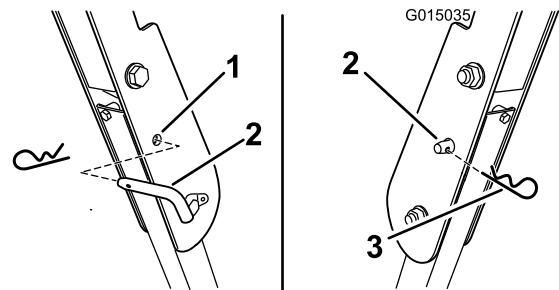

Figure 11
3. Install the locking pins. Secure the pins by installing the hair cotter pin (Figure 11).
4. To lower the roll bar, remove the hair cotter pin and remove the locking pin.(Figure 11).